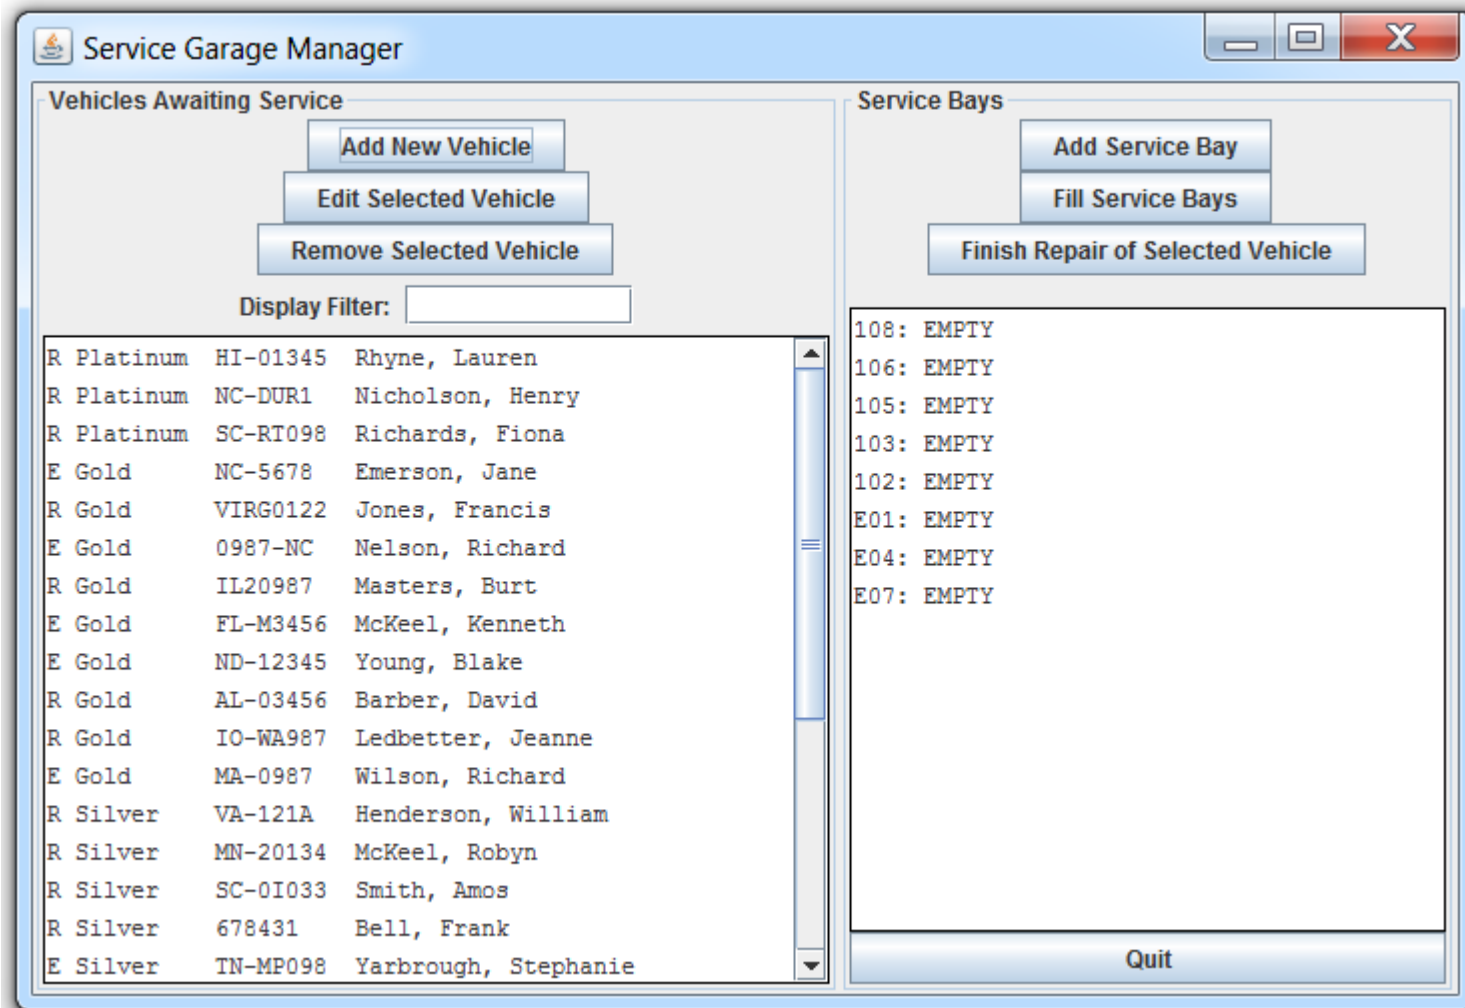

Figure 1: Wally's Service Garage service manager prototype GUI.
Figure 1 shows a sample prototype GUI for the Auto Repair Shop software bid. The GUI must provide all of the functionality indicated in the figure.
6. Remove a vehicle from a service bay, thus making that service bay empty (and subsequently able to service other vehicles). See Figure 1 above.